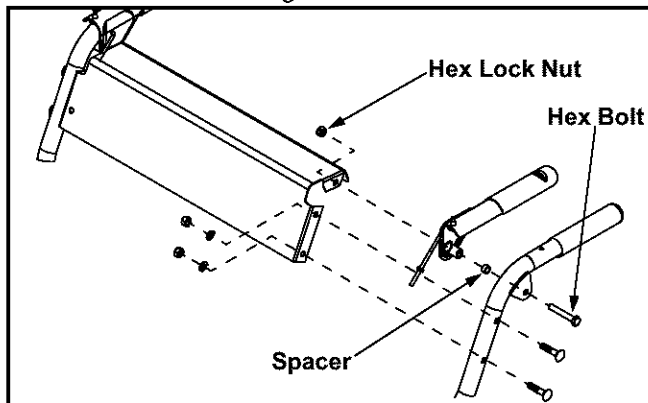

Figure 6
- Slide spacer on each end of the clutch grip and place the clutch grip in position on the each respective handle. Clutch grips must sit on top of the handles. See Figure 6.
- Secure each clutch grip with a hex bolt threaded from the outside of each handle and tighten with hex lock nut under handle panel. See Figure 6.